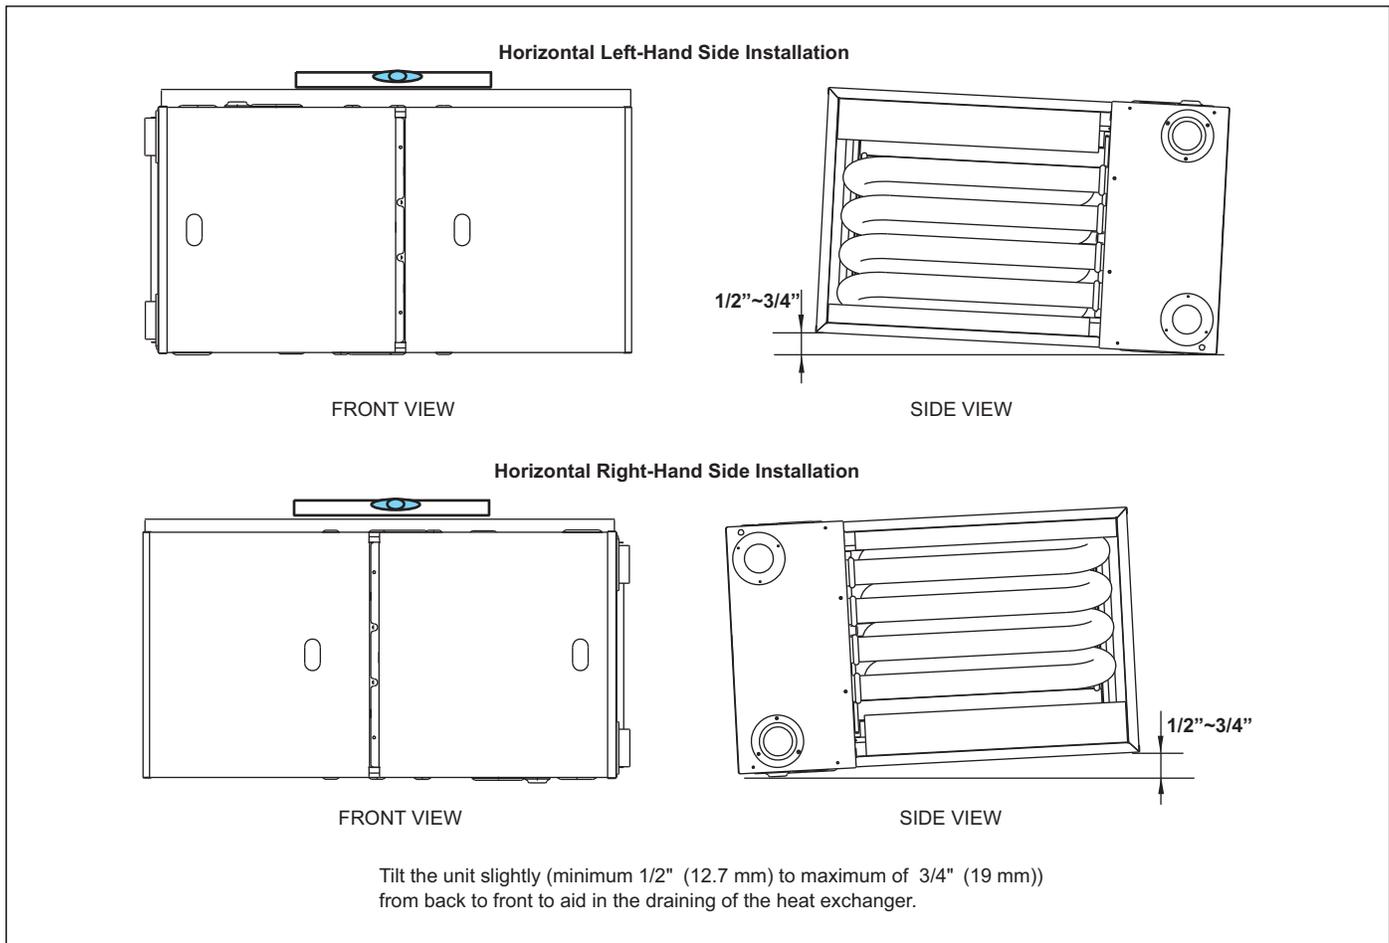

Figure 9 Horizontal application-setting equipment
The furnace can be installed horizontally in an attic or crawl space on bottom or either the left-hand (LH) or right-hand (RH) side (See Figure 9). The furnace can be hung from floor joists, rafters or trusses or installed on a non-combustible platform, blocks, bricks or pad.
Leveling ensures proper condensate drainage from the heat exchanger and induced draft blower. For proper flue pipe drainage, the furnace must be level lengthwise from end to end. The furnace should also have a slight tilt with the access doors downhill ((minimum 1/2 (12.7 mm) to maximum of 3/4 (19 mm)) from the back panel. The slight tilt allows the heat exchanger condensate, generated in the recuperator coil, to flow forward to the recuperator coil front cover. Refer to Figure 9.